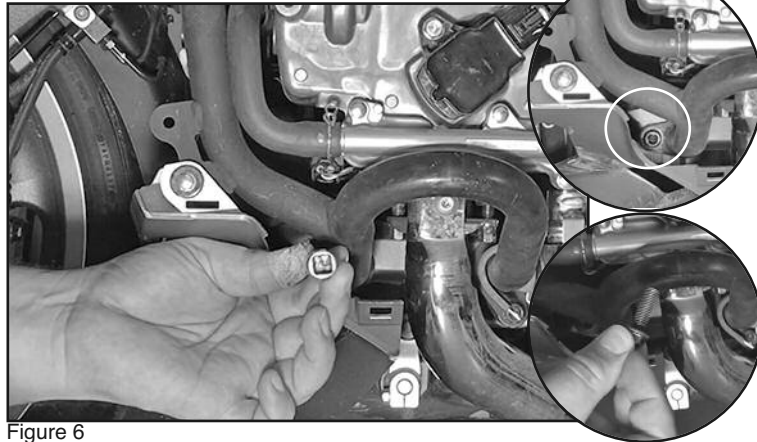

Figure 6
6. Remove the stock Screw holding the stock engine bar to the frame. This screw will not be re-used. **(12mm Socket, with Ratchet and Long Extension or no Extension if removing from front horn area.) Figure 6**